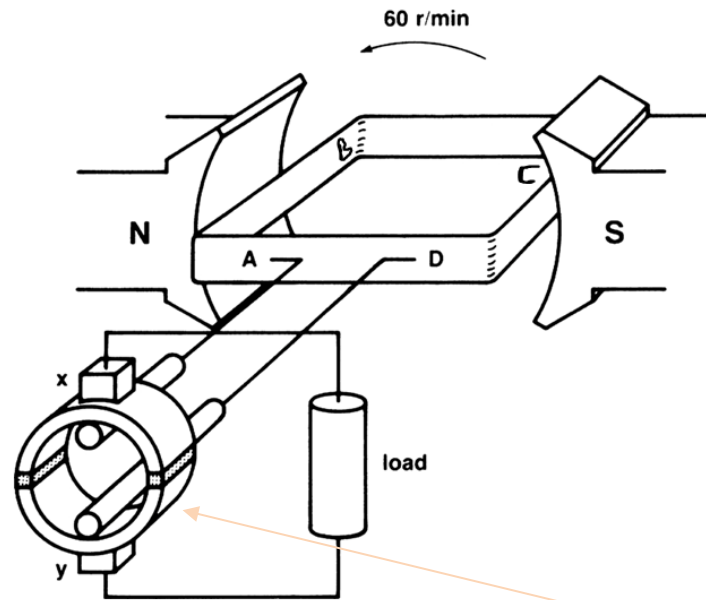
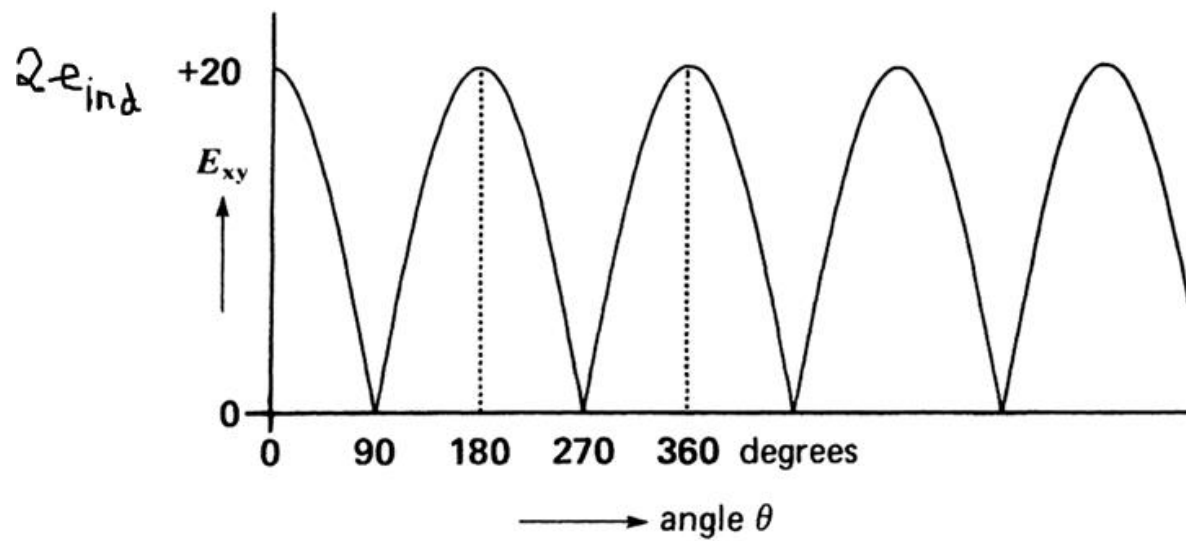
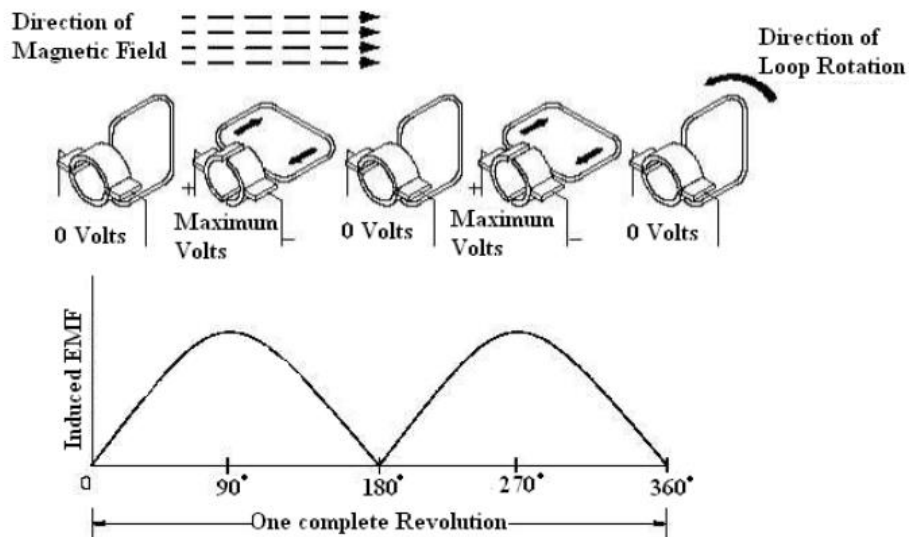

Figure 4.4: Conversion of bipolar voltage to unipolar at the load using Commutator
Figure 4.5: Output voltage at load
Figure 4.6: DC pulsating voltage generation using commutation process
Figure 4.4 shows the induced voltage plot against time assuming speed of rotation to be 60 rpm. There will be one rotation per second giving frequency of the rotation to be 1Hz and time period of the waveform to be 1 second.
As explained in the previous section, the natural shape of the induced voltage in a rotating coil is bipolar, i.e., a coil rotating in a magnetic field will always have an AC voltage induced between its terminals. To get a unipolar (DC) voltage, a special arrangement is done at the terminals as shown in figure 4.4. The two slip rings are replaced by a single one which is split in two halves insulated from each other. This is called a *commutator*. The two carbon brushes are touching the two halves of the commutator. As the coil moves, the commutator halves keep switching between the two carbon brushes instead of touching the same one as it was the case with the arrangement shown in figure 4.1 that produced AC voltage at the load. Now when the coil AB is under the North Pole, it will be touching the top brush x, and once it will move to the other side (under South Pole), it will be touching the bottom brush y. At this time coil CD will be under the North Pole touching the top brush x. Hence, the voltage at brush x will always be positive with respect to brush y throughout the course of rotation and load voltage will be *DC Pulsating* as shown in figure 4.5.
As shown in *figure 4.5*, at  $0^\circ$ , side  $AB$  is under the North Pole and  $CD$  is under the South Pole, inducing voltage  $2e_{ind}$  in the coil which is positive from  $x$  with respect to  $y$ . At  $90^\circ$ , the coil is perpendicular to the magnetic field and the velocity vector is parallel to the field, hence, no voltage will be induced as  $\mathbf{v} \times \mathbf{B}$  will be zero. At  $180^\circ$  (half turn),  $CD$  is under the North Pole and  $AB$  is under the South Pole but now commutator segment connected to  $CD$  is touching the brush  $x$  and commutator segment connected to  $AB$  is touching the brush  $y$ . Hence, voltage induced in the coil is still  $2e_{ind}$  which is positive from  $x$  with respect to  $y$ . Therefore, for the load connected between brushes  $x$  and  $y$ , the voltage will always be unipolar. *Figure 4.6* further explains this process.